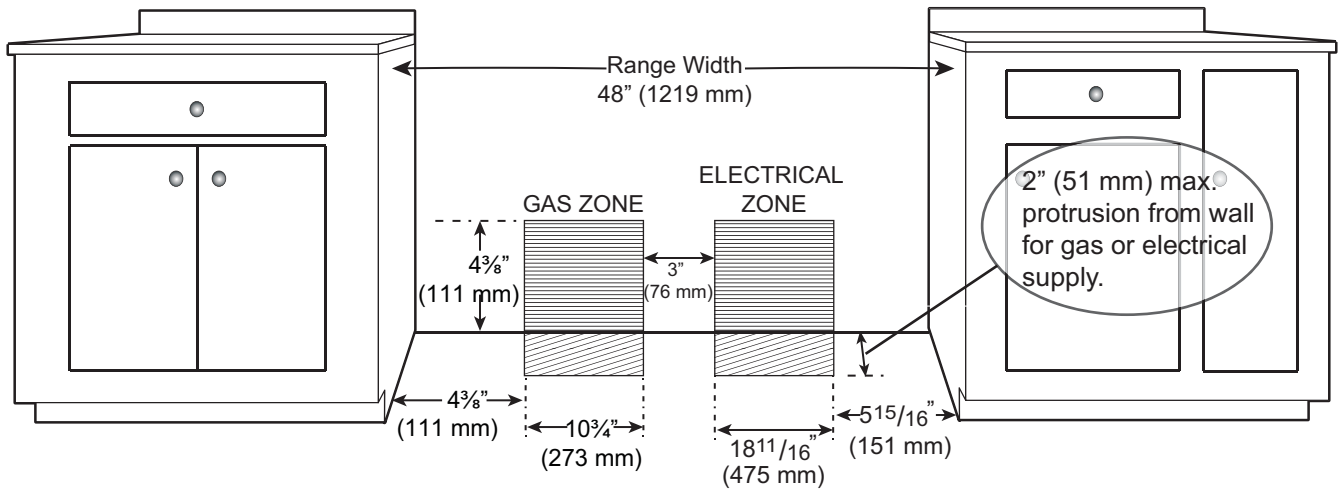

Figure 4: Gas & Electrical Supply Locations for Dual Fuel Ranges
- The gas and electrical supply should be within the zones shown in *Figure 4* on *page 8*.